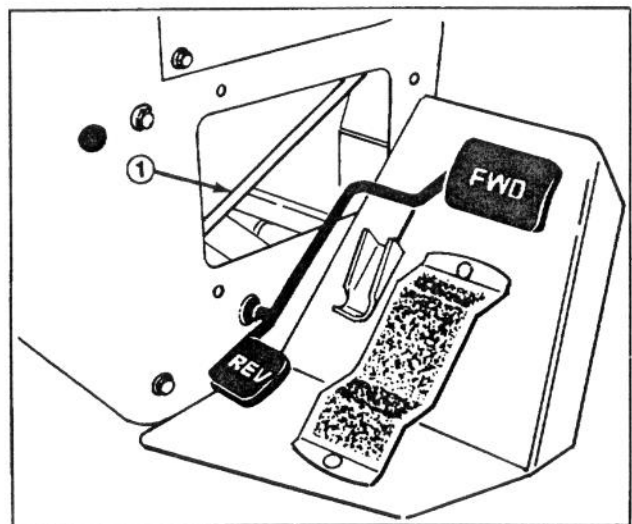

Figure 45
2. Loosen jam nuts on each end of traction rod (Fig. 45).